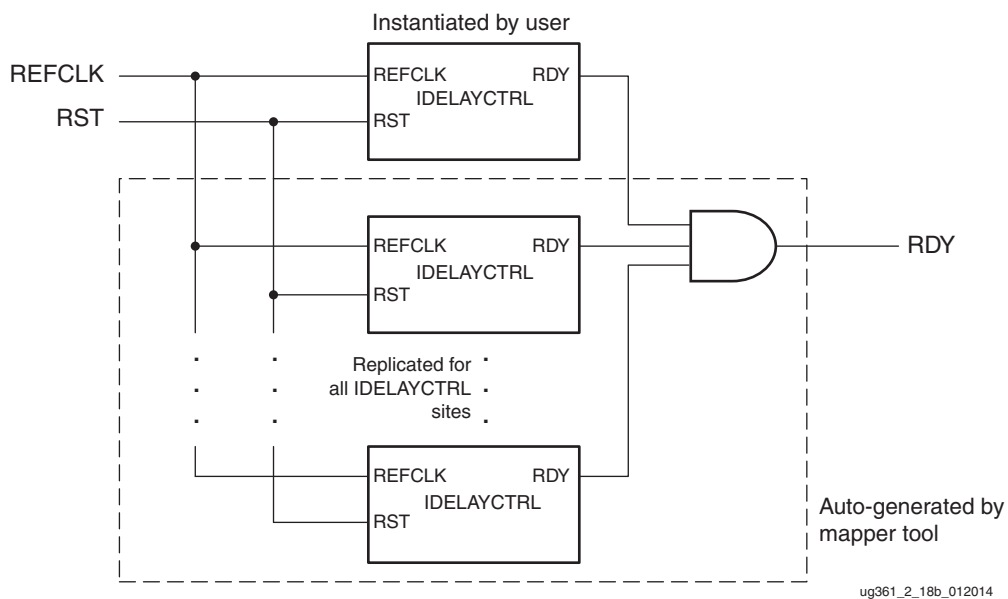

Figure 2-20: Instantiate IDELAYCTRL Without LOC Constraints - RDY Connected
- When the RDY port is connected, an AND gate of width equal to the number of clock regions is instantiated and the RDY output ports from the instantiated and replicated IDELAYCTRL instances are connected to the inputs of the AND gate. The tools assign the signal name connected to the RDY port of the instantiated IDELAYCTRL instance to the output of the AND gate. The VHDL and Verilog use models for instantiating an IDELAYCTRL primitive without LOC constraints with the RDY port connected are provided in the Libraries Guide. The resulting circuitry after instantiating the IDELAYCTRL components is illustrated in Figure 2-20.